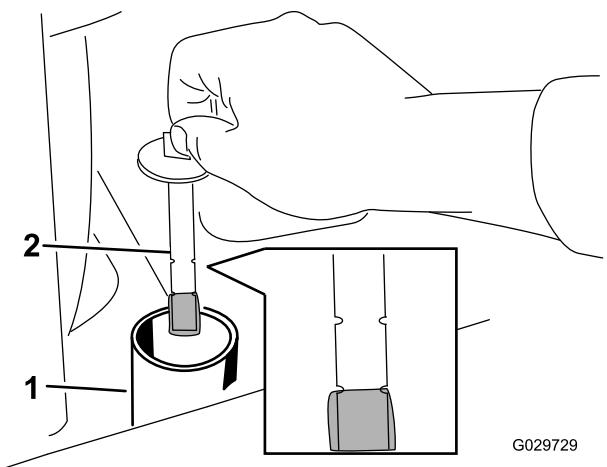

Figure 28
- Remove the cap from the filler neck and check the fluid level on the dipstick (Figure 28).